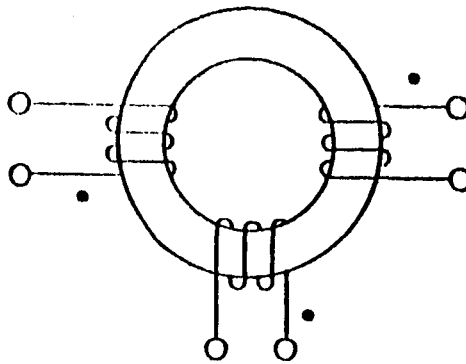

Figure MN-2. Simple Magnetic Core
d. The net change in flux, when going from a negative quiescent state to plus saturation, is proportional to HJ. It should be noted that other windings on the magnetic core will sense this change in flux and will generate a voltage proportional to the number of turns and the rate of change of flux. Figure MN-2 shows a simple magnetic core with three windings on it. If positive ampere-turns are then applied to winding No. 1, the core condition effectively goes from D to B. Since the hysteresis loop is very square, the change in flux during this time (proportional to DJ) is very small when compared to HJ. As a result, the voltage generated in coil No. 2 will be very small at this time.